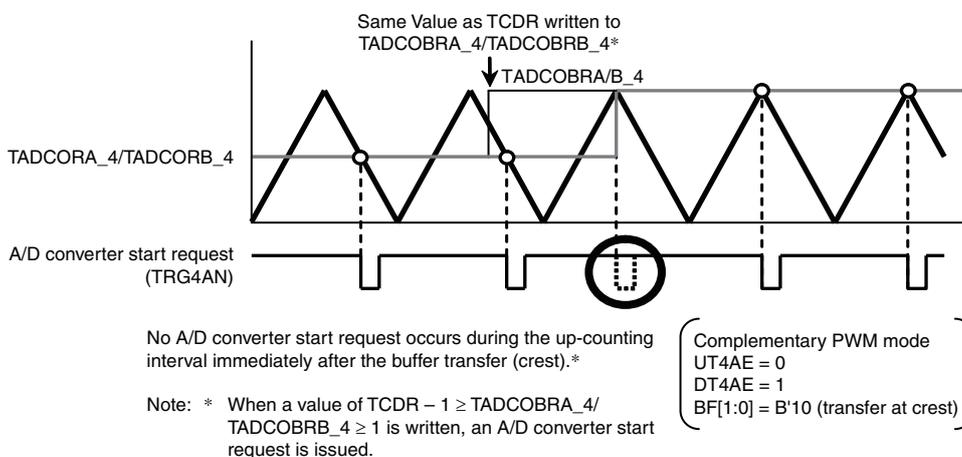

Figure 2.2 A/D Converter Start Request Operation when Same Value as TCDR Is Written to TADCOBRA_4/TADCOBRB_4
- When the value of TADCOBRA_4/TADCOBRB_4 is the same as that of TCDR and the DT4AE or DT4BE bit in TADCR is set to 1, and then buffer transfer takes place at the crest of TCNT_4, no A/D converter start request occurs during the down-counting interval immediately after the transfer (figure 2.2).